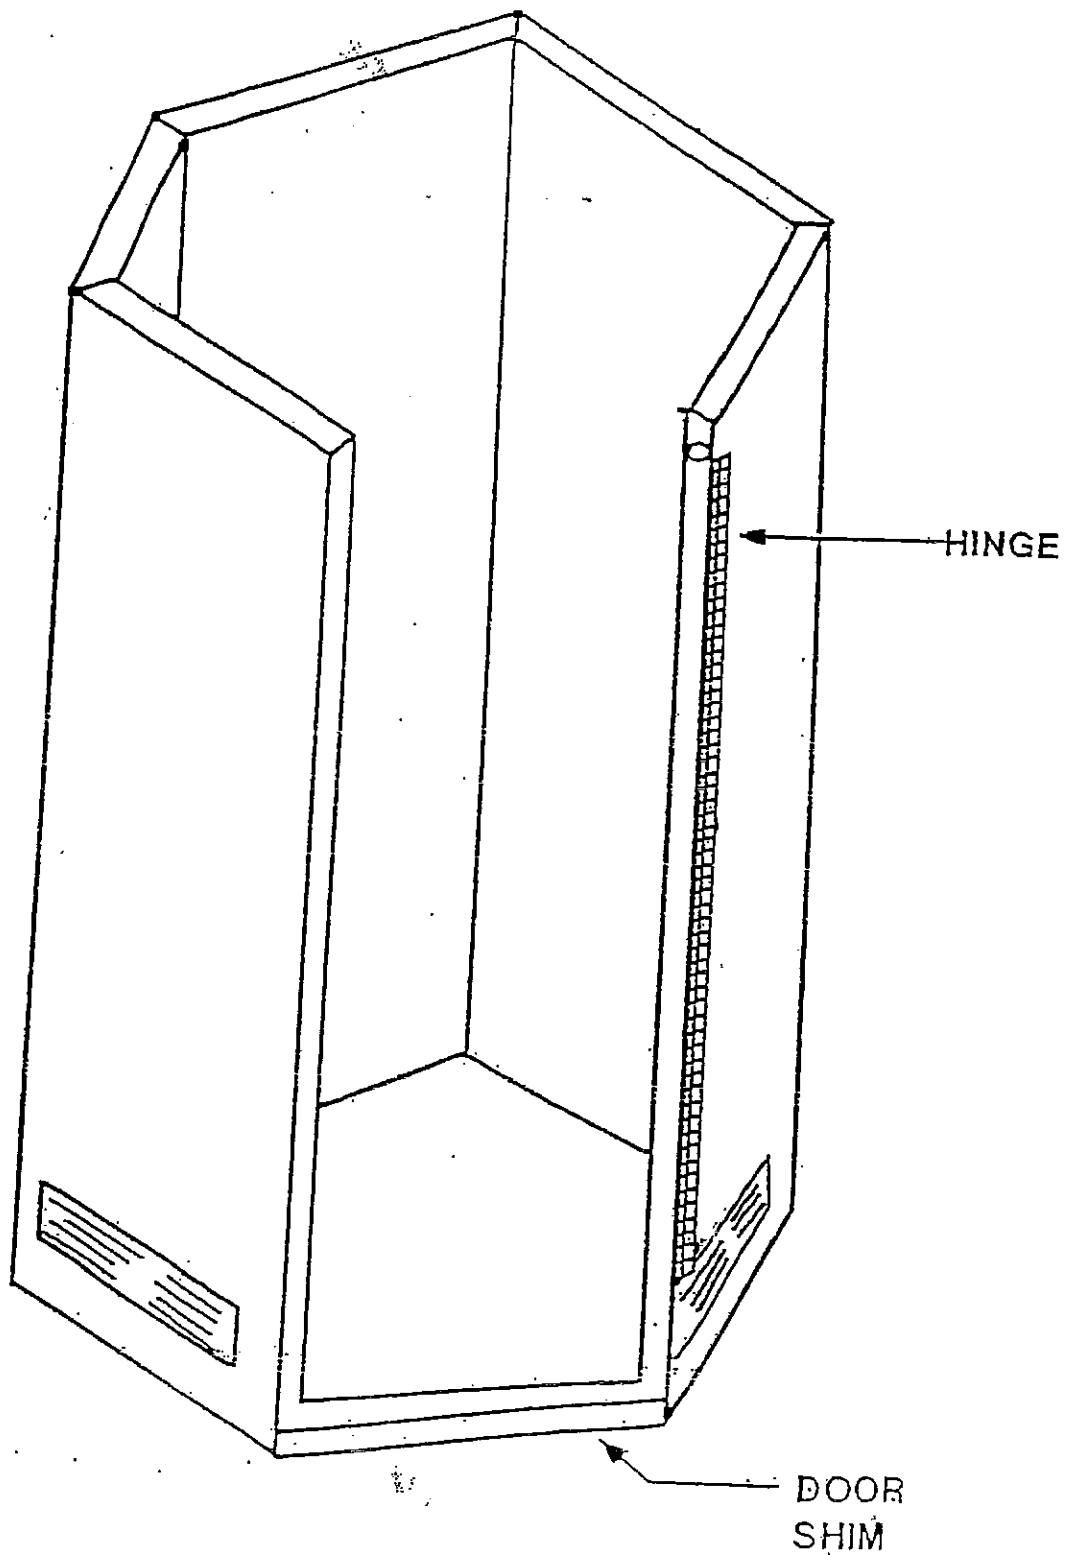

FIGURE 4
5. Run flex conduit from the light fixture to junction box on the HEX[®] roof and make connections to corresponding numbers (#3's, #4's, #7's) Install outside corner moldings with finish nails from (package #3).(Figure 4)
6. If the unit is a formica laminate, there are five inside corner moldings to be attached. Nail the smallest piece of molding to the top corner where the change room shelf is to be placed. Install the corner shelf with (3) silver 5/8" screws (from accessory bag). Nail the four foot piece under the shelf. The remaining three pieces are attached to the other three corners.
(FIGURE 4)